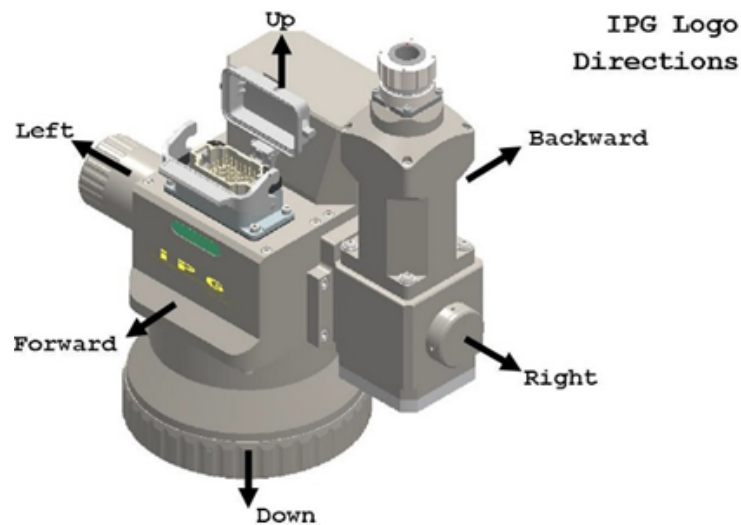

Figure 275: IPG Scan Head Logo Directions
10. Set the direction for which the IPG Logo (located on the front of the scan head) moved. See Figure 275 (below).